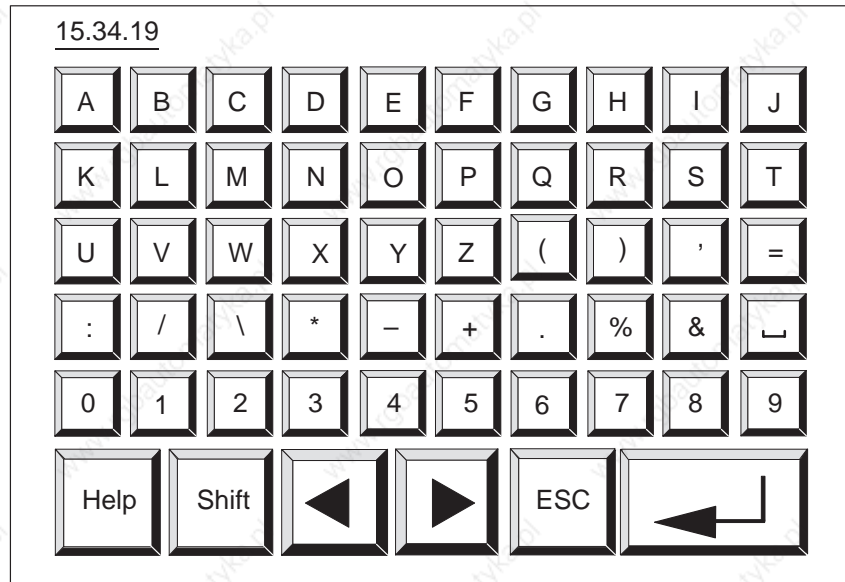

Figure 3-3 Entering alphanumeric values at the language-independent normal level
Enter numbers in the fields configured for alphanumeric input, character for character, using the alphanumeric keypad. Figure 3-3 illustrates the language-independent keyboard template for the normal level. The keyboard template for the Shift level of the alphanumeric keyboard varies according to the language.
- Normal level: (see figure 3-3) is the same in all languages.